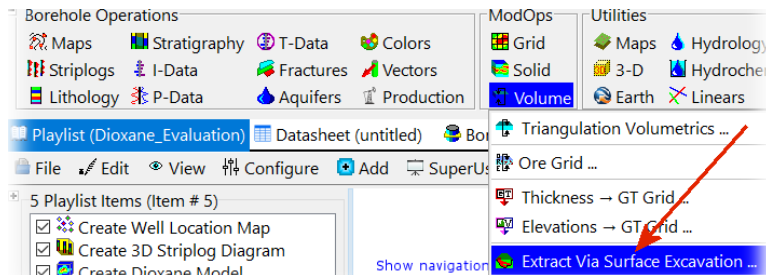

Figure 92
- Select the *ModOps / Volume / Extract Via Surface Excavation* program (Figure 92).